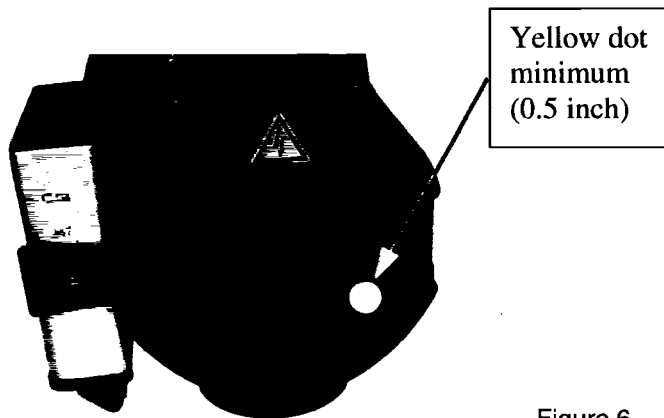

Figure 6.
1. **Before** starting work, check to see if the heater is already marked. This means the burner tube has been replaced already. Corrected heaters are marked with a yellow dot on the control unit or on the front side of the burner head cover (black plastic) or in both places (see figures 6 & 7).
10. Place a water insoluble (permanent ink or paint) yellow dot, minimum $\text{Ø}10\text{mm}$ (0.5 in.), on the control unit and on the front side of the burner head (see figures 6 & 7) to identify corrected heaters.